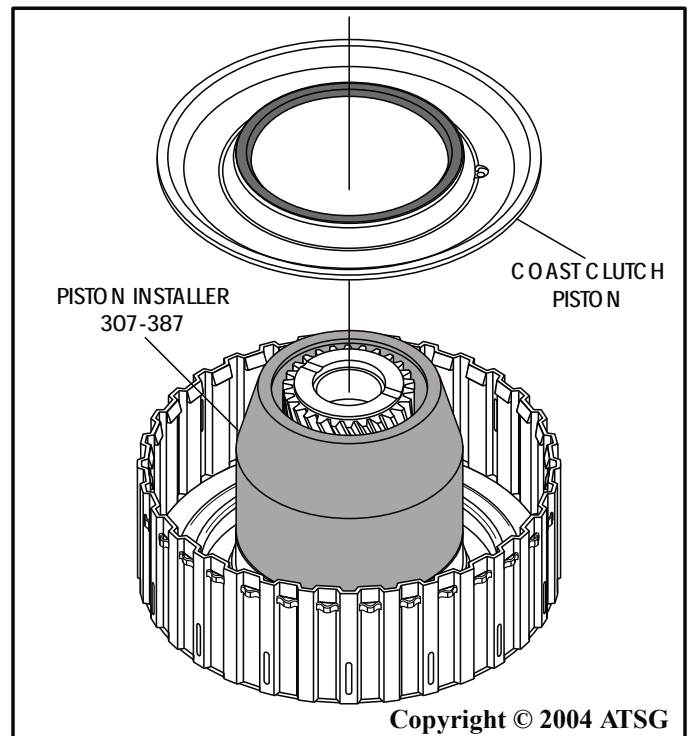

Figure 98
5. Lube and install a new coast clutch piston into the coast clutch housing using the installer, as shown in Figure 98.